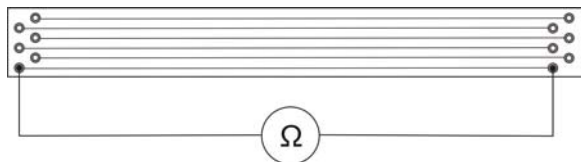

Fig. 1 Experimental set-up
- Connect the LCR meter to the sockets of the Constantan wire with the smallest diameter (refer to fig. 1).
- Set up the experiment according to fig. 1.